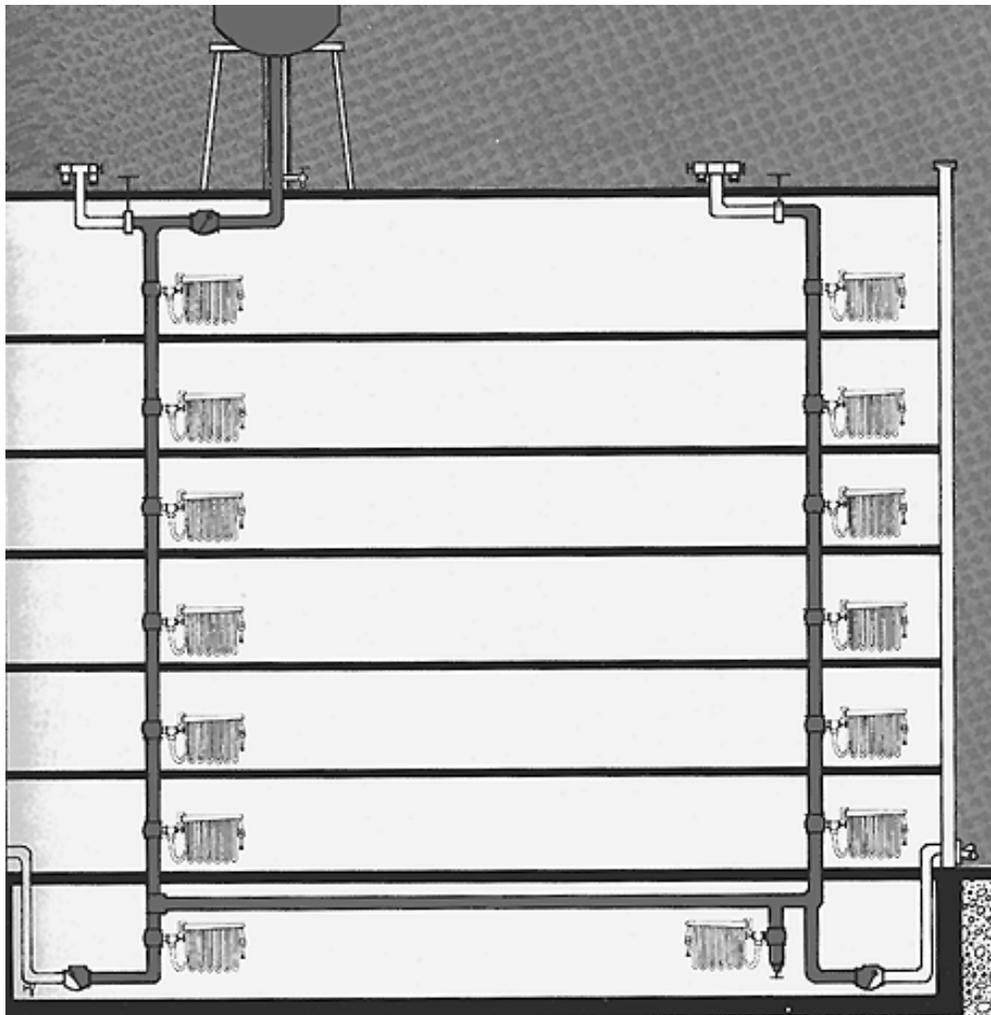

Fig. 9-1
- Wet systems contain water in the riser at all times supplied by city main, gravity tank, pressure tank, and/or fire pump (see Fig. 9-1).